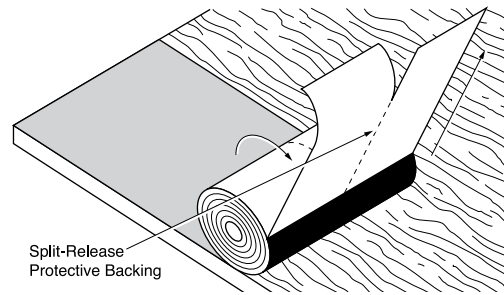

Figure 5-5: Application using the “Roll-Out” method
7. Beginning with the already peeled release film, continue to peel both sections of film from the roll, pulling the roll parallel to the eaves (Figure 5-5). Be sure the WinterGuard lays flat and is sticking well.